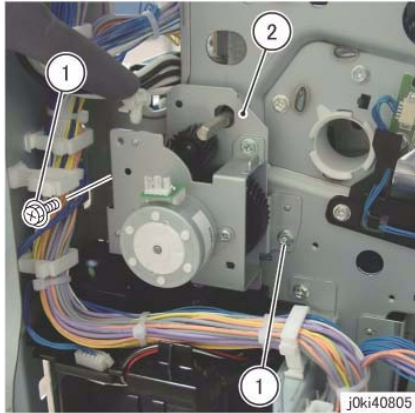

Figure 4 Remove the Agitator Motor Assembly
8. Remove the Agitator Motor Assembly. (Figure 4)